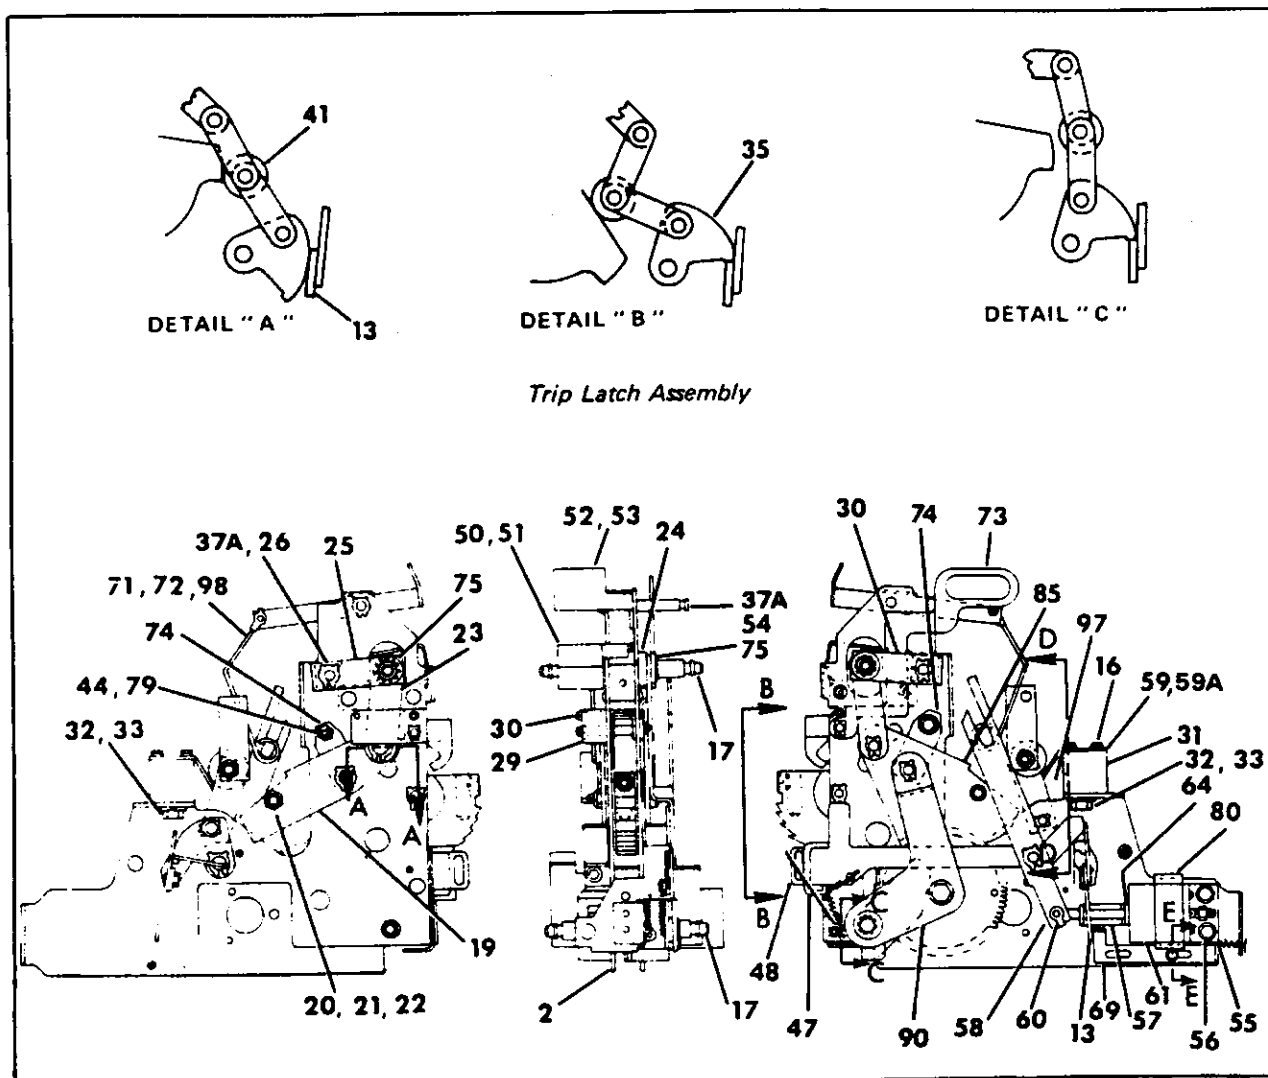

Figure 7. Typical Operator Assembly
Toggle latch (35) should engage the full width of trip latch (13) when the circuit breaker is closed in the normal manner. The tension on spring (15) can be increased if required by bending spring tab on trip flap towards the front of the circuit breaker. Too much tension will interfere with the capability of the tripping actuator to move the trip flap, so over-bending should be avoided. (See Figure 7.)
The springs have reached charged position. The motor/gear lever (2) has been retracted by roll pins on the large gear as the cam follower (95, Figure 7) on the large spur gear has disengaged from the wind and close cam (85). The motor cutoff switch (3) has opened, stopping the motor, and the closing coil switch (4) has closed. Upon application of power to the closing circuit the breaker will close. Switches then return to No. 1 position.
If the motor cutoff switch (3) does not open, the motor will continue to run and the cam follower (233) will re-engage wind and close cam (85, Figure 7) jamming the entire mechanism, possibly stripping gears in the gear motor, blowing the control fuse, or damaging the motor. To free a jammed mechanism it is necessary to remove the gear motor.